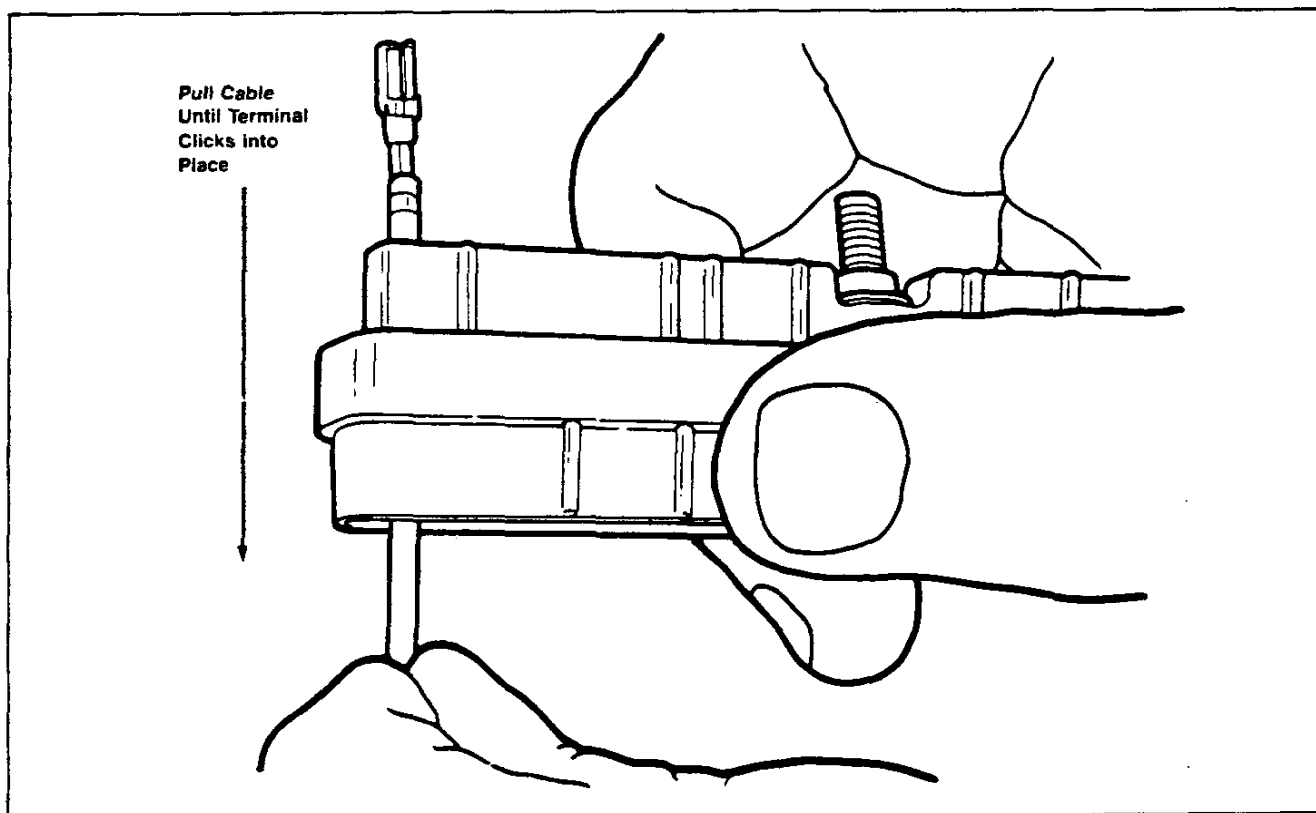

Figure 40
8. Align the locking tang of the terminal with the lettered side of the connector. Pull the cable back through the connector until a click is heard. Position the seal into the connector (Fig. 40).